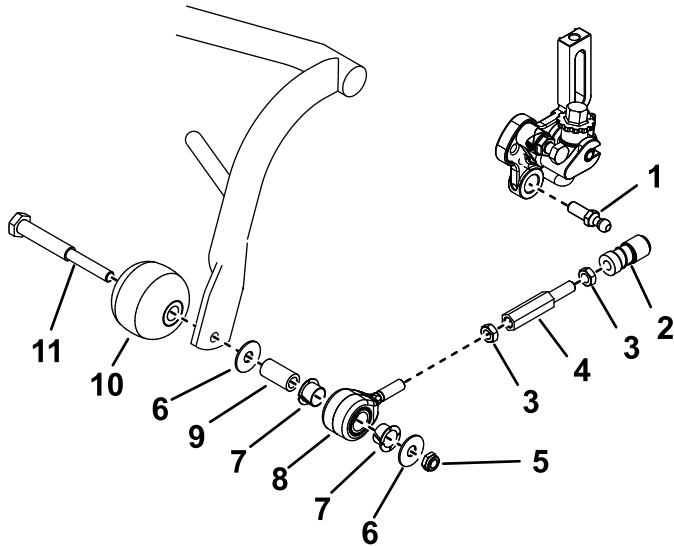

Figure 3
1. Slide back the sleeve on the ball-joint receiver and remove the receiver from the ball stud (Figure 3)
2. Remove the locknuts and roller shafts securing the anti-scalp rollers and the pull-link assemblies to each carrier frame (Figure 3).
3. Disassemble the pull-link assemblies (Figure 3).